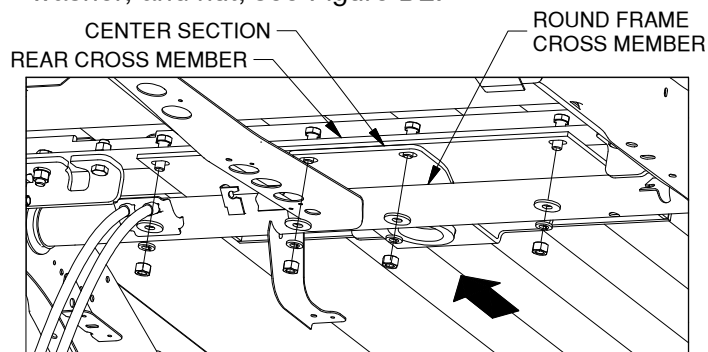

Figure D2: Looking up under truck bed.
- Attach the center section to rear cross member.** With the center section in the center of the truck, slide it toward the rear, placing the flat part of the center section that has four slotted holes between the bed cross member and the round frame cross member. Slide it back until the raised portion of the center section lines up with the 4" hole in the truck bed. Insert the raised portion into the truck bed hole. If using an overhead lifting device, secure it to the center section at this time and apply enough force to hold the center section against the truck bed. Align the slots in the rear flange of the center section with the holes in the rear cross member. Install a 1/2" x 1-1/2" cap screw in each location and secure with a flat washer, lock washer, and nut; see Figure D2.